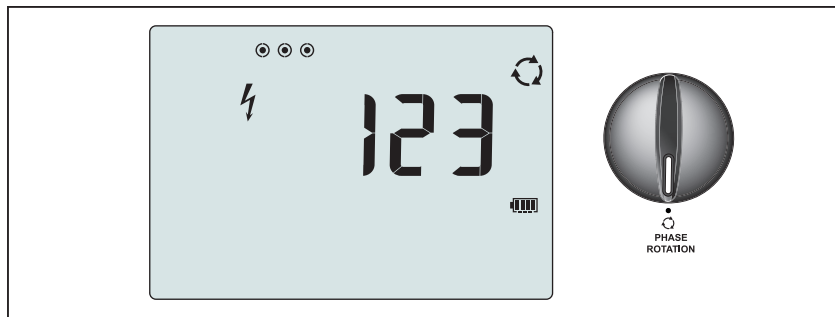

Figure 11. Phase Rotation Display
1. Turn the rotary dial to the  position. See Figure 11.